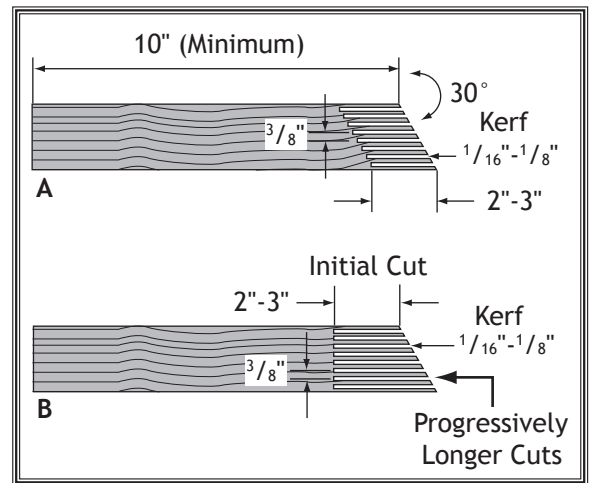

Figure 63. Patterns for making featherboards.
3. Make a series of end cuts with the grain $\frac{3}{8}$ "- $\frac{1}{4}$ " apart and 2"-3" long, as shown in **Figure 63** (A). Alternatively, start cuts at 2"-3" deep, then make them progressively deeper, as shown in **Figure 63** (B).